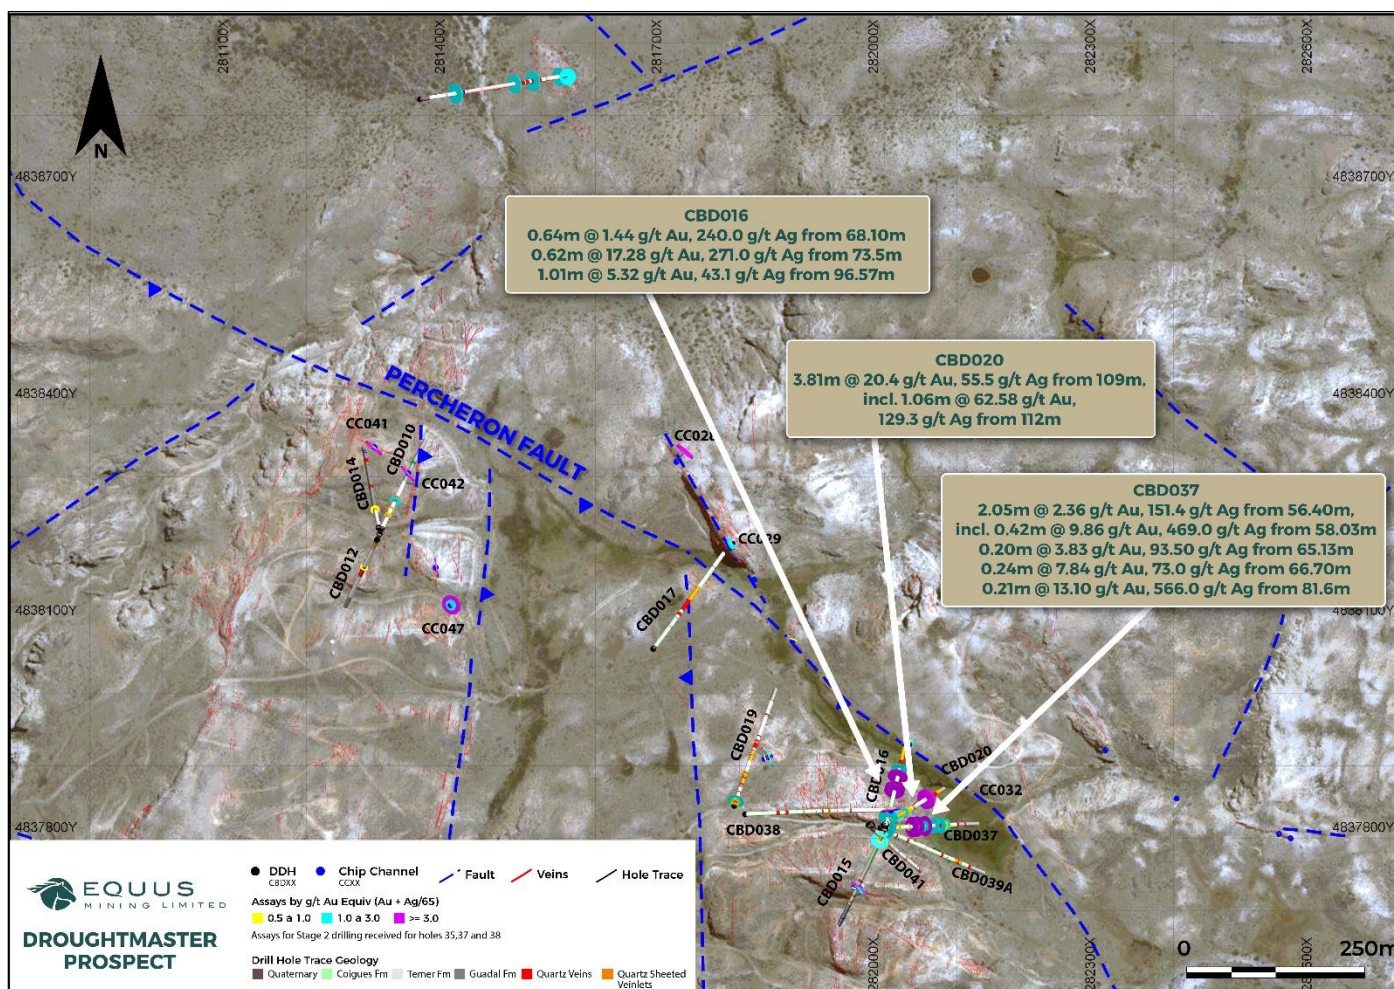

Figure 1 – Droughtmaster Prospect – Plan showing vein outcrop and summary trench and drillhole geochemical results
- ▶ The high grade intervals in Hole CBD037 occur approximately 30- 40m to the south east of mineralised intervals in hole CBD020 and are interpreted to relate to a series of steeply southwest dipping, sheeted and stockwork quartz veining and hydrothermally brecciated zones (Figure 1).